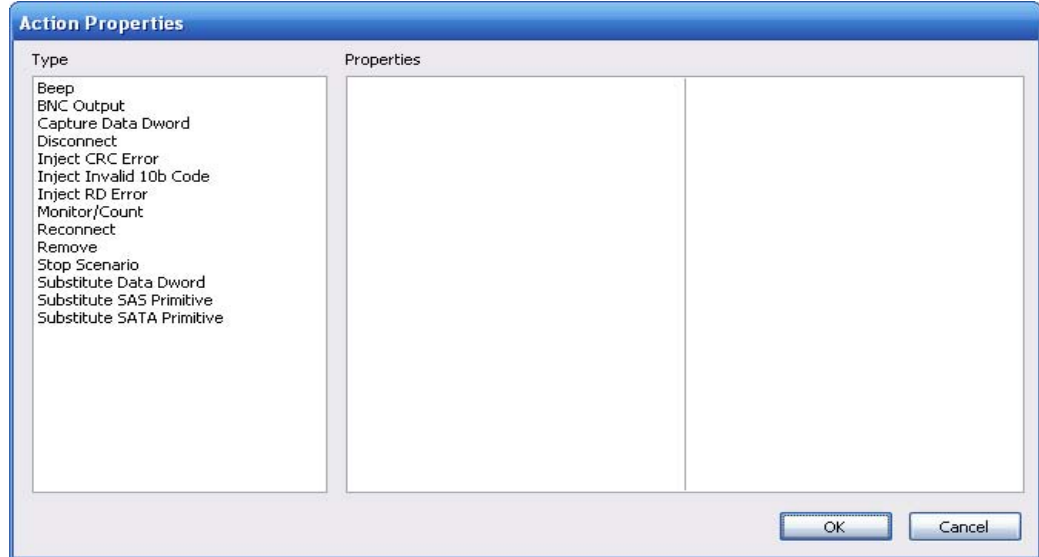

Figure 47 Example 1: Action Properties Dialog Box
- Step 8** The Action Properties dialog box appears (Figure 47). In the Type column on the left, choose the action you want to occur when an RRDY is detected. In this example, it is the Remove action.